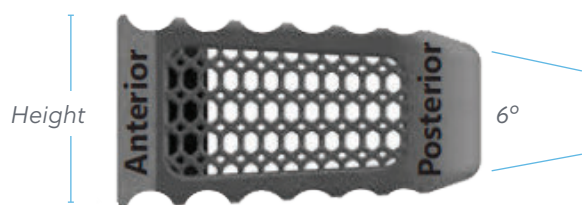

Figure 9
- Implant heights are measured from the area representing the highest point on the anterior wall of the implant (Figure 9).